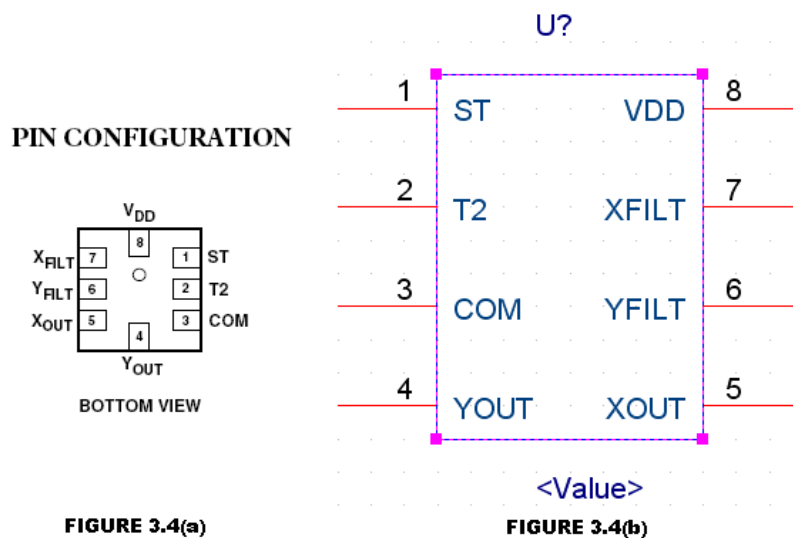

Figure 3.4: ADXL202AE Part Symbol
11. Use the Place Rectangle tool to draw the symbol outline (See Figure 3.4)
14. Use the part's datasheet to complete the symbol (**See Figures 3.4(a) and 3.4(b)**)
Note: The Pin Configuration diagram in the Accelerometer's datasheet (Figure 3.4(a)) is shown from the bottom view, therefore the layout and schematic symbols must be mirrored.